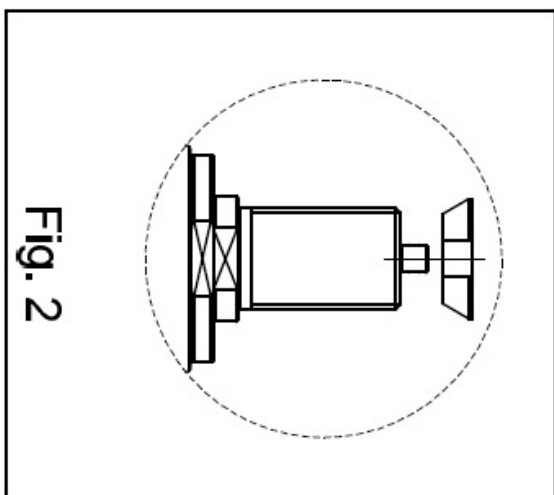

Fig. 2
- c. Slip the bronze washer on the top of the pump piston (**Fig. 2**).